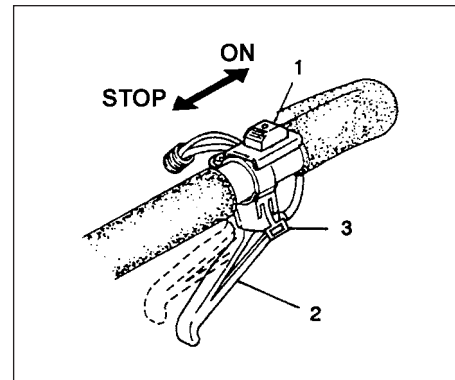

Fig. 2-2
1. Set ignition switch (1) to ON position. (Fig. 2-2)
2. If throttle lock (3) is equipped, pull the throttle trigger (2) and keep pushing the throttle lock (3), then slowly release the lever to be locked. (Fig. 2-2)